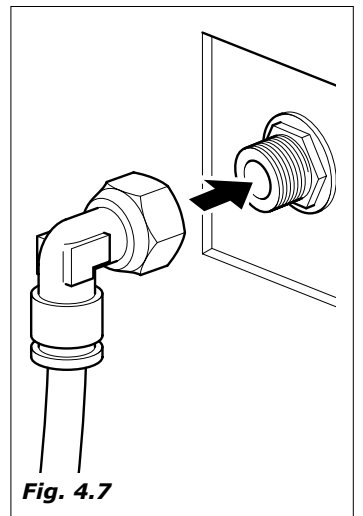

Fig. 4.7
- the foreseen connection is a 3/ 8 gas (Fig.4.7).